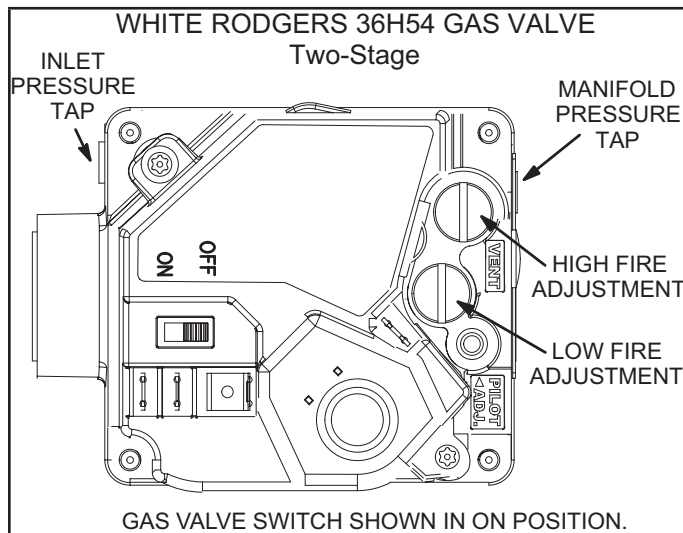

FIGURE 36
Gas Valve Operation for Honeywell VR8205Q / VR8305Q and White Rodgers 36H54 (FIGURE 36)
- 5 - Turn gas valve switch to **OFF**. See FIGURE 36.
- 6 - Wait five (5) minutes to clear out any gas. If you then smell gas, **STOP!** Immediately call your gas supplier from a neighbor's phone. Follow the gas supplier's instructions. If you do not smell gas, go to the next step.
- 7 - Turn gas valve switch to **ON**. See FIGURE 36.